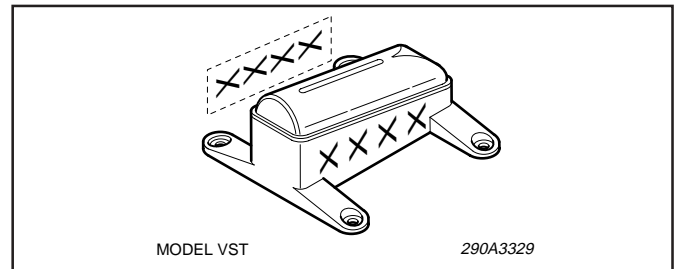

Figure 6. Message Label Attachment.
D. Message Label Attachment (see figure 6).